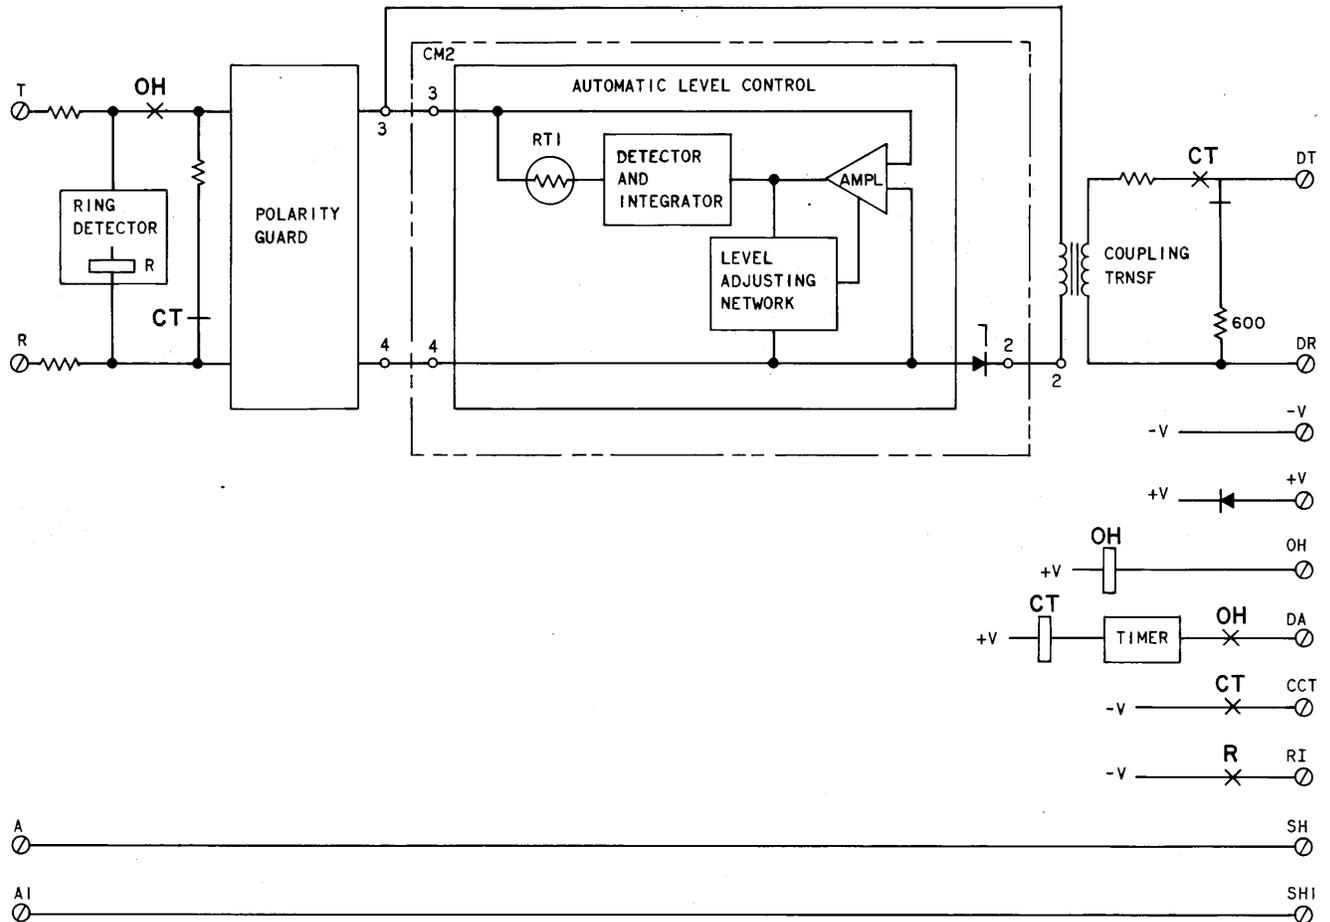

Fig. 3—1001D Data Coupler—Data Mode
polarity guard (Fig. 3). The transformer terminates the telephone loop and provides a 2-way protective function (ie, hazardous voltages, surge protection, and longitudinal isolation). The ALC circuit prevents the customer signal level from exceeding the prescribed maximum limit. The polarity guard maintains the polarity of the line current and voltage required by the ALC circuit.
2.12 Ring Detection: The ring detector (Fig. 3) is activated when the 20-Hz ringing signal is present on the line, indicating an incoming call. The R relay, part of the ring detector, operates and releases in response to each half cycle of ringing current. Contact closures of the R relay are used to close the RI interface lead to -V. **The contact closures must be integrated by the customer data terminal to protect against false operation due to surges or to dial pulses. At least two cycles of 20-Hz ringing signal should be detected before reacting to the signal.**